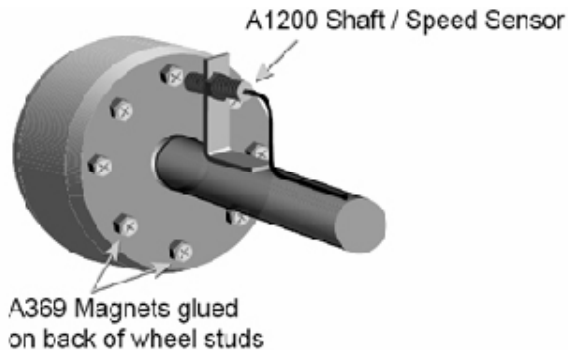

Figure 5-6. Shaft/Speed Sensor on an Un-Driven Wheel Installation
The magnet activates the sensor as the wheel magnets sweep past (Figure 5-6 on page 5-12).
1. Glue the magnets to the wheel studs (Figure 5-6), with the side marked with a plus (+) facing the Shaft/Speed Sensor.
Space the magnets equally around the wheel, on all the available wheel studs (Figure 5-6), to ensure accurate speed updates.